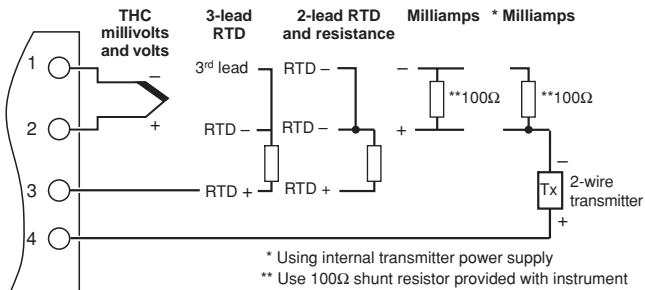

Fig. 5.5 Electrical Connections
5.3 Electrical Connections – Fig. 5.5 (overleaf)